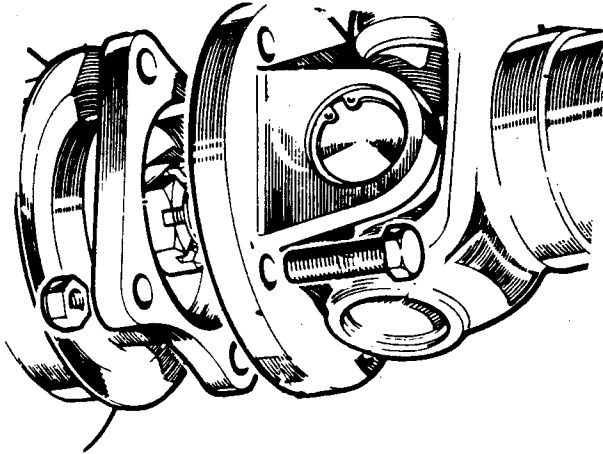

Fig J1.5
- (4) Refer to Fig J1.5. Disconnect the rear propeller shaft and move it clear of the final drive unit.